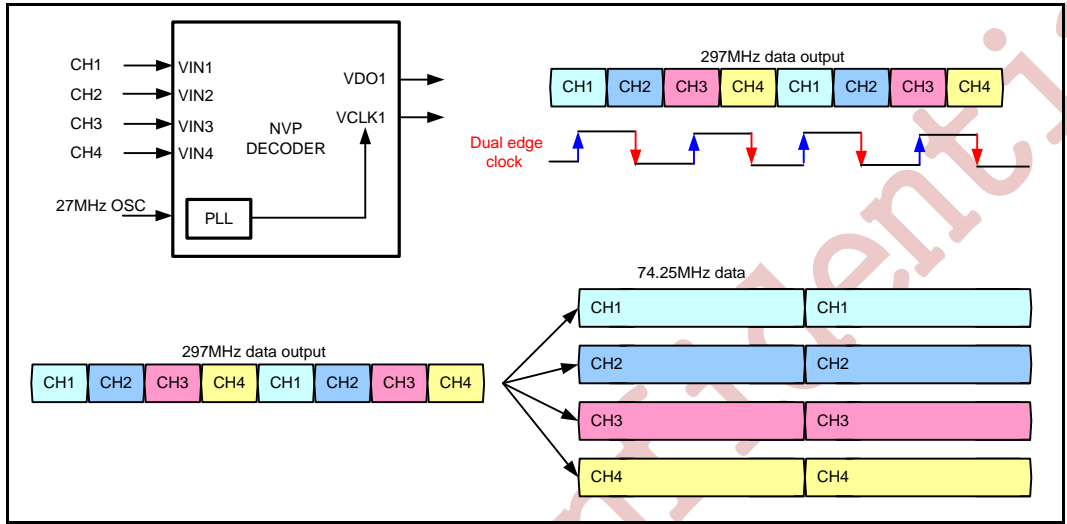

Figure 2.11 NVP6158C generate 297MHz(1Port 4-CH) data output
4. And then NVP6158C generate 297MHz(1Port 4CH) data output (Figure 2.11)